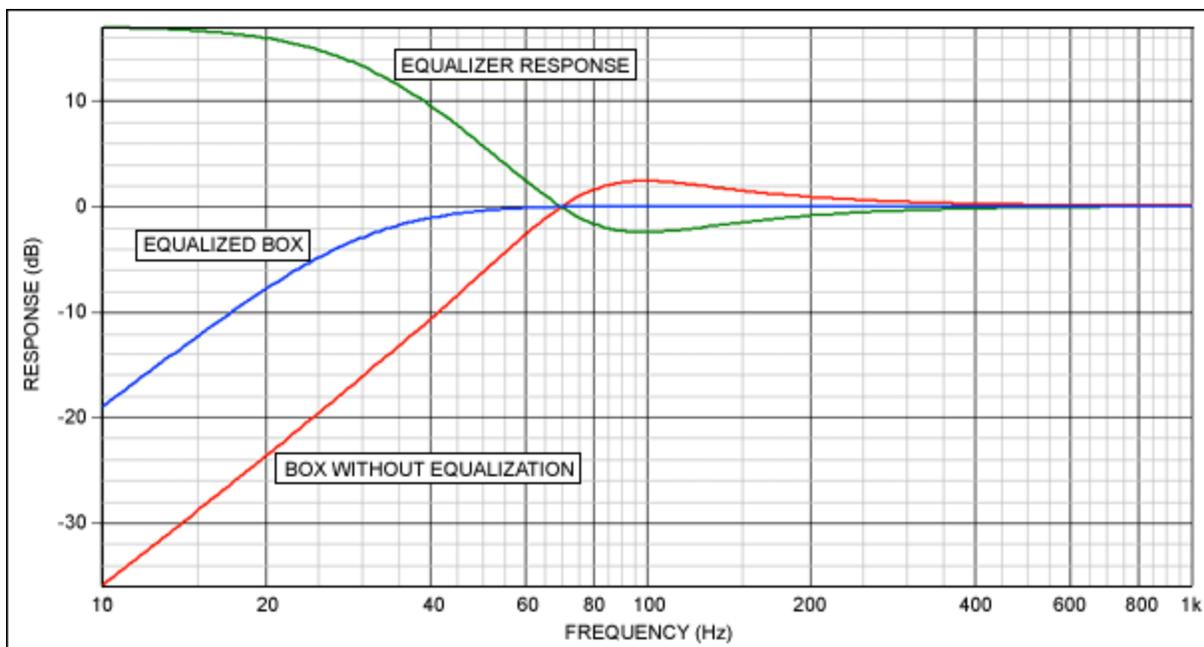
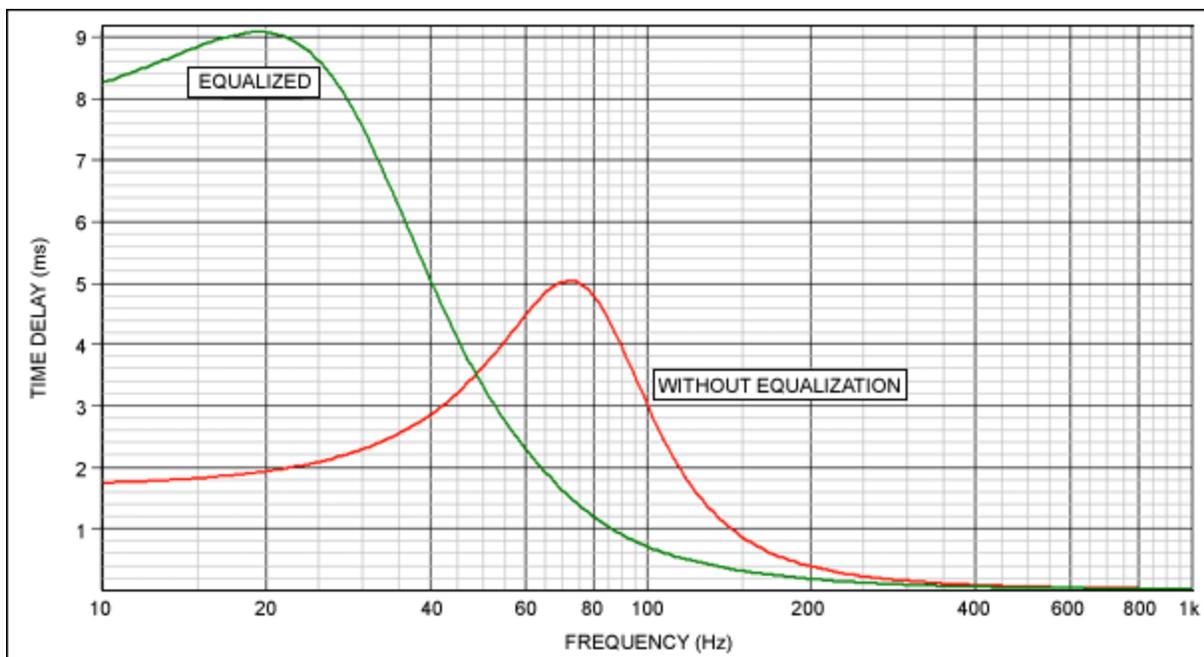

Figure 3. These curves illustrate how the equalizer improves an existing system.
Figure 4. For most music, the equalized system also provides a more favorable delay time.
**Figure 3** shows the original response, the equalizer response, and the desired combination of those two, which nicely matches the target. **Figure 4** shows the time delay before and after equalization. Although peak delay is higher in the equalized system, the delay over those frequencies that are important for music is improved.